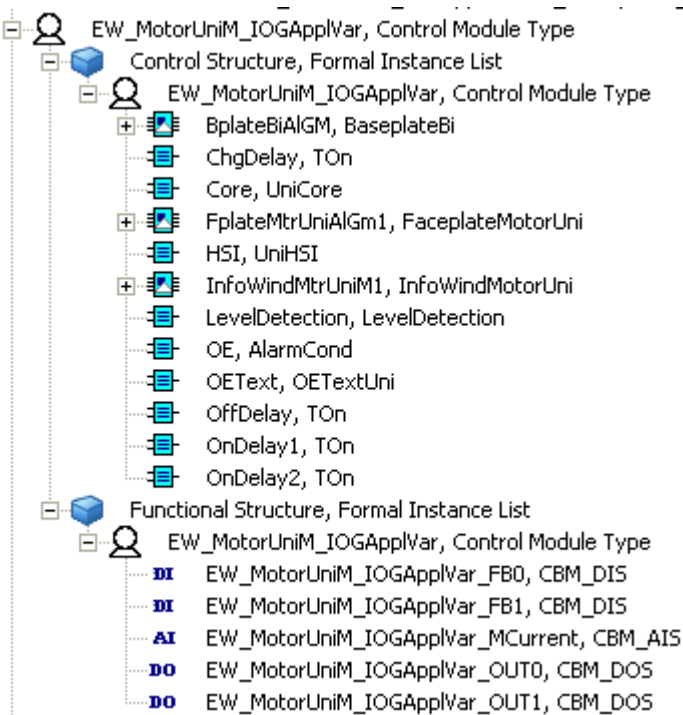

Figure 373. Process Object with its Signal Objects
3. Extend the object type in the Object Type Structure with formal instances of Signal objects in the Functional Structure as shown in Figure 373.